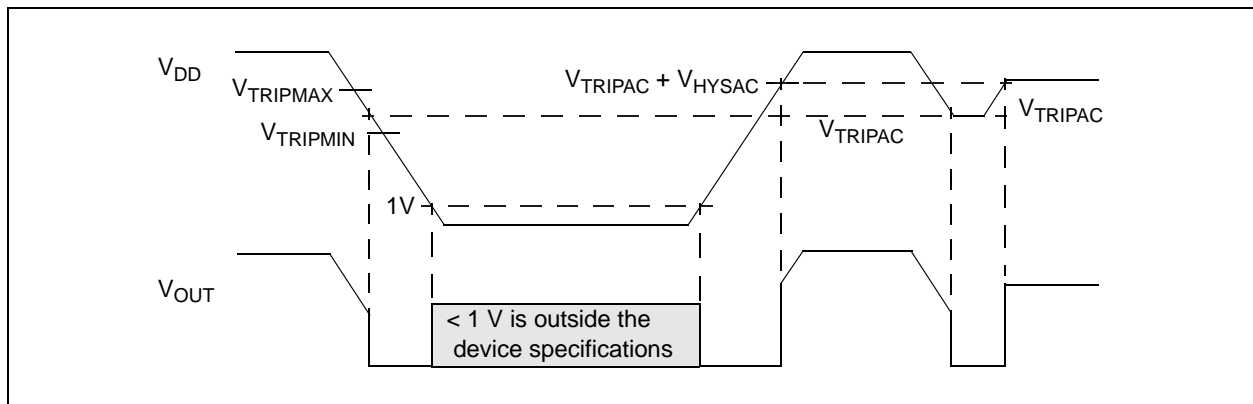

**FIGURE 4-1:** Typical Application Circuit.
**Note:** Unless otherwise indicated, all limits are specified for  $V_{DD} = 1V$  to  $5.5V$ ,  $R_{PU} = 100\text{ k}\Omega$  (only **MCP111**; see **Figure 4-1**),  $T_A = -40^\circ\text{C}$  to  $+125^\circ\text{C}$ .
**Note:** Unless otherwise indicated, all limits are specified for  $V_{DD} = 1V$  to  $5.5V$ ,  $R_{PU} = 100\text{ k}\Omega$  (only **MCP111**); see **Figure 4-1**),  $T_A = -40^\circ\text{C}$  to  $+125^\circ\text{C}$ .
**Note:** Unless otherwise indicated, all limits are specified for  $V_{DD} = 1V$  to  $5.5V$ ,  $R_{PU} = 100\text{ k}\Omega$  (only MCP111; see Figure 4-1),  $T_A = -40^\circ\text{C}$  to  $+125^\circ\text{C}$ .
For many of today's microcontroller applications, care must be taken to prevent low-power conditions that can cause many different system problems. The most common causes are brown-out conditions, where the system supply drops below the operating level momentarily. The second most common cause is when a slowly decaying power supply causes the microcontroller to begin executing instructions without sufficient voltage to sustain SRAM, thus producing indeterminate results. Figure 4-1 shows a typical application circuit.
A 0.1  $\mu\text{F}$  bypass capacitor, mounted as close as possible to the  $V_{DD}$  pin, provides additional transient immunity (refer to Figure 4-1).